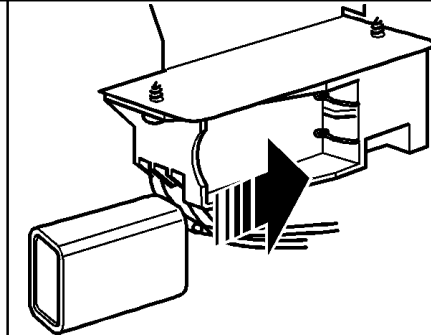

Figure 11.
- Fit the battery to the ignition block located below the burner tray at the left side (See figure 11). The +ve and -ve terminal positions are marked on the battery holder body.